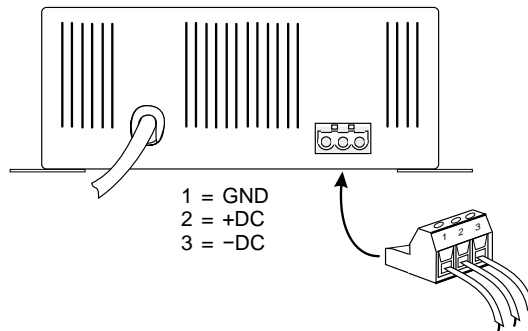

Figure 1 Model 722 cabinet showing 3-position plug-in terminal strip.
**3.6 DC OUTPUT CONNECTIONS** Before connecting to the DC output ensure that the power cord is not plugged into an outlet. Be certain that the DC output LED is not lit. The DC-output connections are made via a 3-position plug-in terminal strip. The terminal strip is located on the bottom face of the unit, adjacent to the where the power cord exits the chassis, as illustrated in Figure 1. Remove the terminal strip by firmly grasping it with your fingers and pulling it straight away from the cabinet. Do not wire the terminal strip while it is attached to the power supply. Once it is removed, a small straight-blade screwdriver is required to loosen the clamp screws. The interconnecting wires are slipped into the openings of the terminal strip, and then the screws are tightened to secure the wires into place. A minimum wire gauge of #18 AWG or larger is recommended. (Remember that the smaller the AWG number, the larger its current rating.) Although not required, using a wire that is "heavier" than is technically necessary will help to minimize the resistance, and the resultant voltage drop, between a power source and the equipment being powered. After the wires are secured into the terminal strip, plug it back into the socket on the Model 722. Ensure that the terminal strip is firmly mated with the socket.